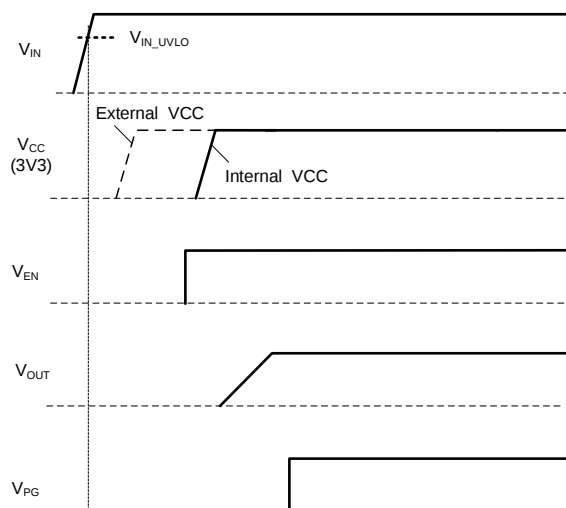

Figure 7: Start-Up Sequence
The MP8638 employs a soft-start (SS) mechanism to ensure a smooth output during start-up. Once EN is pulled high, the internal  $V_{REF}$  ramps up gradually, and  $V_{OUT}$  ramps up smoothly as well. SS is complete once  $V_{REF}$  reaches the target value, and the parts begins steady-state operation (see Figure 7).